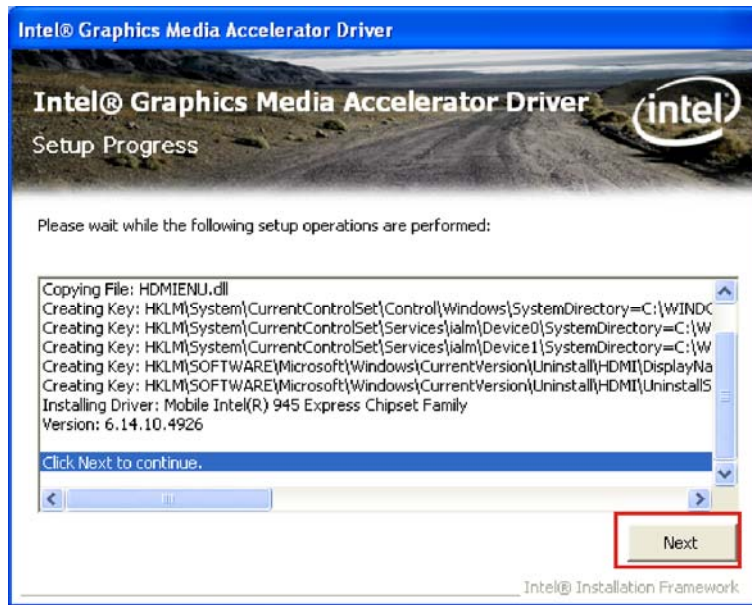

Figure 7-14: VGA Driver Setup Operations
Step 32: Setup Operations are performed as shown in Figure 7-14.